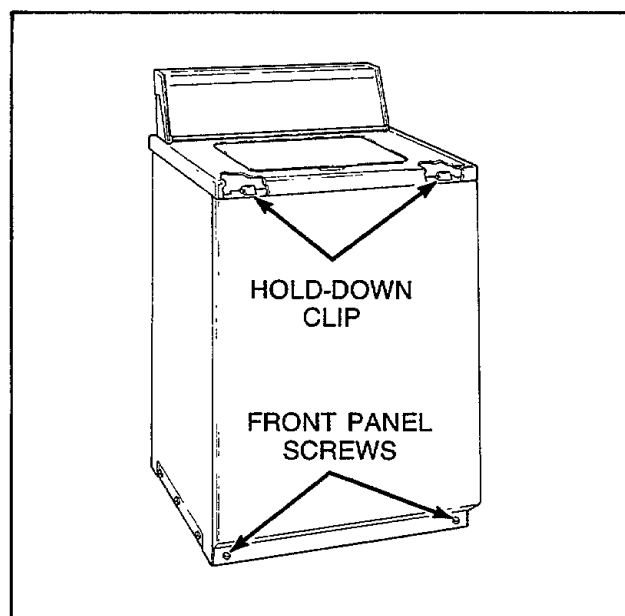

Figure 10
9. FRONT PANEL (Refer to Figure 10)
- a. Remove two screws from bottom edge of front panel, *Figure 10*.
hold-down clips (located on top flange of panel) disengage from slots in cabinet top, *Figure 10*.
- Remove two screws from bottom edge of front panel, *Figure 10*.